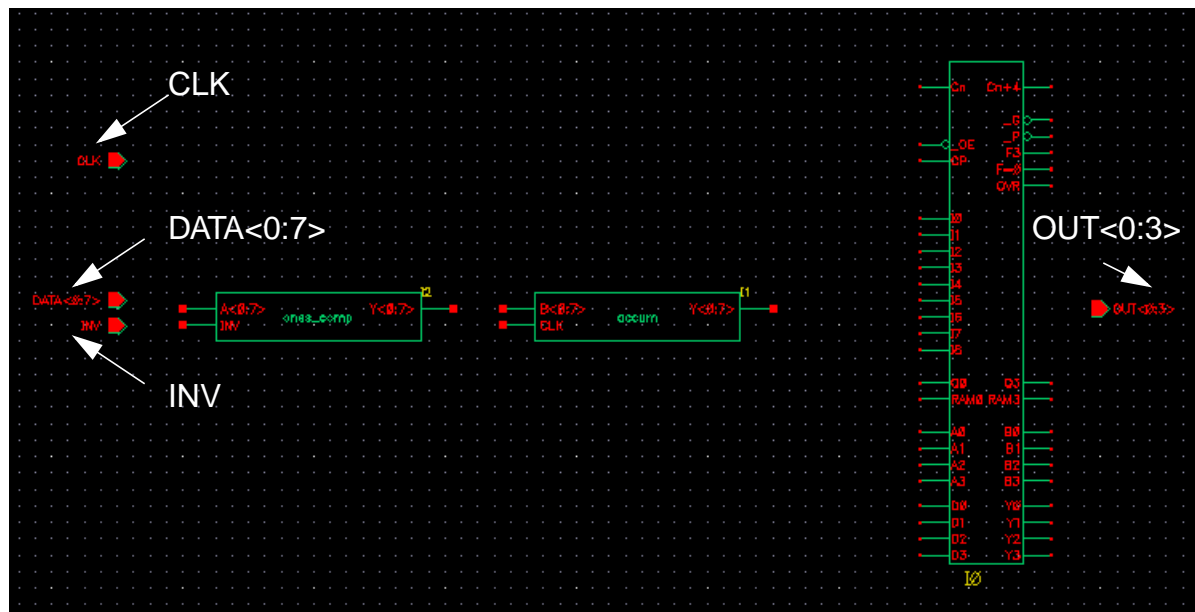

Figure 3-10 Positioning and Placing the Pins
5. Position and click to place the `CLK` pin (see Figure 3-10 on page 39).